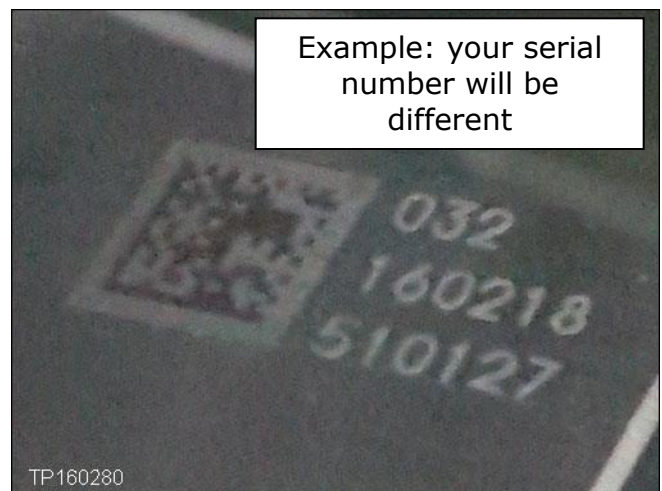

Figure 2
- In the **example** in Figure 2, the serial number is **032160218510127** (this is an example, your serial number will be different)